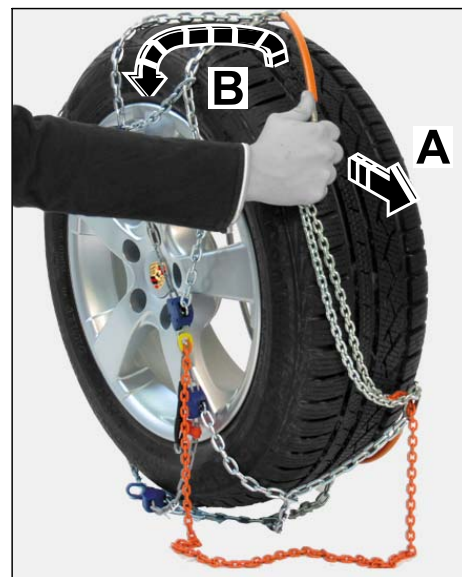

Figure 19
3.4.1 If the end of the spring steel clip is visible: Pull the ends of the spring steel clip apart as far as possible ⇒ *Figure 19-A*- and pull the snow chain off the wheel from above ⇒ *Figure 19-B*-.